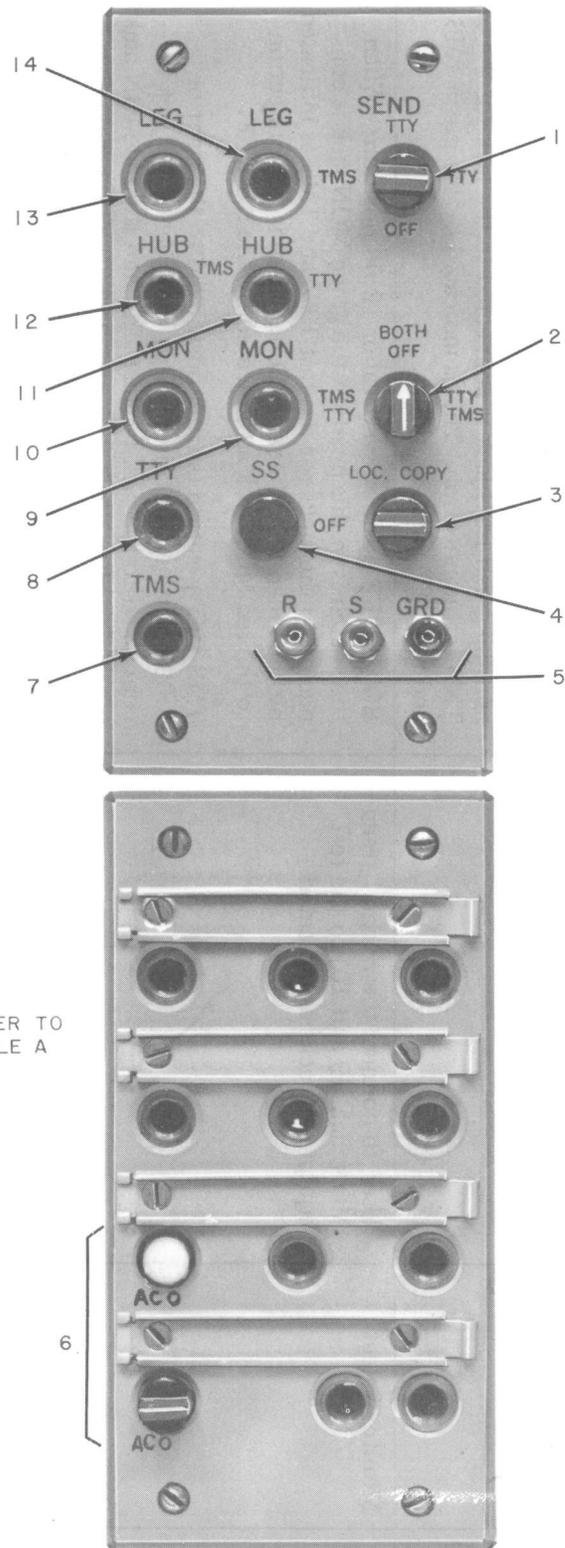

Fig. 2—Test and Cord Panel—Location and Designation of Jacks and Keys
1.06 The jacks and keys of the test and cord panel are shown in Fig. 2 and Table A. The key numbers shown in Fig. 2 correspond to the numbers shown in Table A which gives the designation and function of each key or jack.